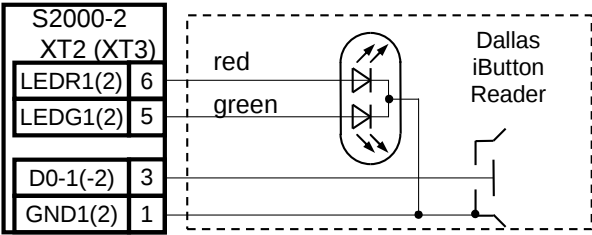

Figure 9. Connection Diagram for Dallas iButton Readers
4.6.2 The schematics for connecting readers are shown in Figure 9 - Figure 15.